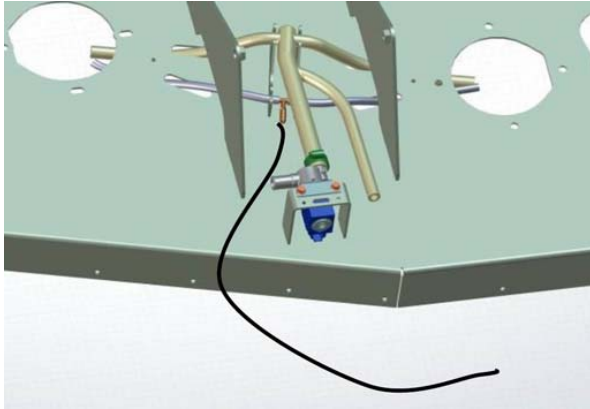

FIG. 45
45. **Machines with disk scrub heads:** Install the items assembled in the previous step onto the scrub head. (Fig. 45)